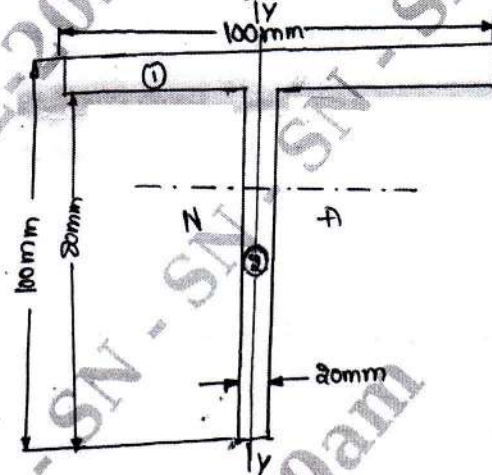

Fig. Q6 (c)
- c. The shear Force acting on a section of a beam is 50 kN. The section of the beam is of T-shaped of dimensions 100mm × 100mm × 20mm as shown in Fig. Q6 (c). The moment of inertia about the horizontal axis is  $314.221 \times 10^4 \text{ mm}^4$ . Calculate the shear stress at the neutral axis and at the junction of the web and the flange.